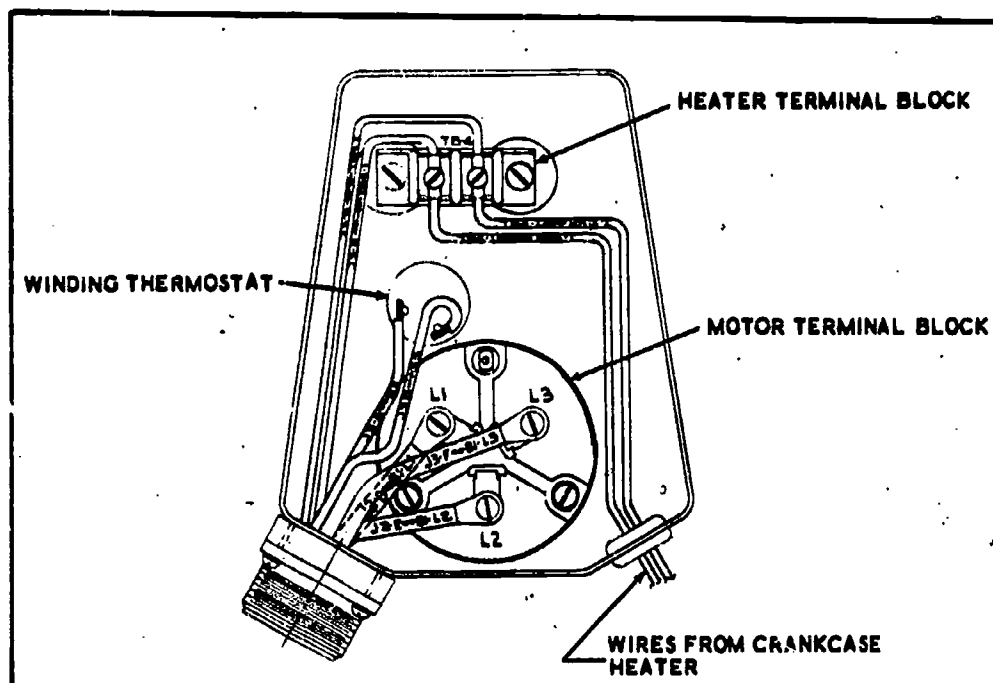

Fig 4-27. Compressor wiring diagram.
- (1) **Circuit breaker.** The circuit breaker will trip instantaneously if there is a short in the compressor motor. It cannot be switched on again until the compressor has been replaced. If the circuit breaker is suspected of being defective, it can be checked by attaching two insulated jumper wires, one to each of the two lower terminals on the breaker, and then momentarily touching the other ends of the jumper wires to the two upper terminals on the breaker; touch the jumper attached to the lower left terminal to the upper left terminal and the jumper on the lower right terminal to the upper right terminal. If the compressor motor starts when the jumpers are touched to the upper terminals, the circuit breaker is defective and must be replaced.
- (2) **Control circuit.** The cause for a system's failure to operate can be greatly narrowed if the control which caused the failure can be isolated. It is the function of safety devices to open the circuit under certain conditions; therefore, additional checking may be required to determine whether the safety device is open because it is defective or is performing its designed function. The following steps contain instructions for checking the control circuit and additional information on safety devices.
- (e) The circuit breaker will break the circuit if the compressor is drawing high current caused by high head pressure, defective compressor motor, or low voltage. Refer to (1) above for circuit breaker test.
- (f) The compressor winding thermal cutout will open if compressor is not receiving adequate cooling, head pressure is high, or voltage is low. Refer to the compressor wiring diagram (fig 4-27).